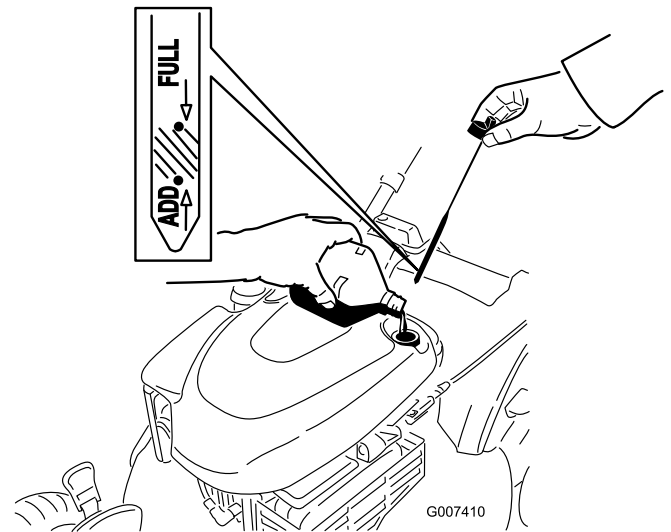

Figure 4
1. Remove the dipstick (Figure 4).
2. **Slowly** pour oil into the oil fill tube until the oil level reaches the **Full** line on the dipstick (Figure 4). **Do not overfill.** (Max. fill: 0.6 l, type: SAE 30 detergent oil)